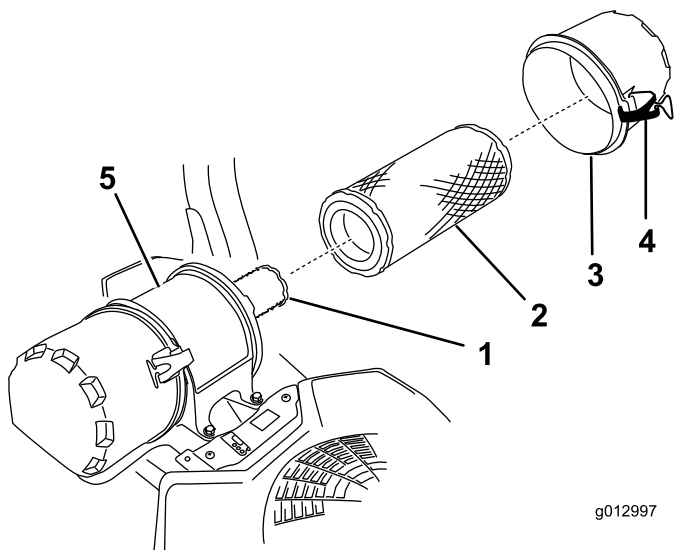

Figure 38
- Release the latches on the air cleaner and pull the air-cleaner cover off the air-cleaner body (Figure 38).
- Gently slide the primary filter out of the air-cleaner body (Figure 38).
- If you are replacing the inner filter, carefully slide it into the filter body (Figure 38).
- Carefully slide the primary filter over the safety filter (Figure 38).
- Install the air-cleaner cover and secure the latches (Figure 38).